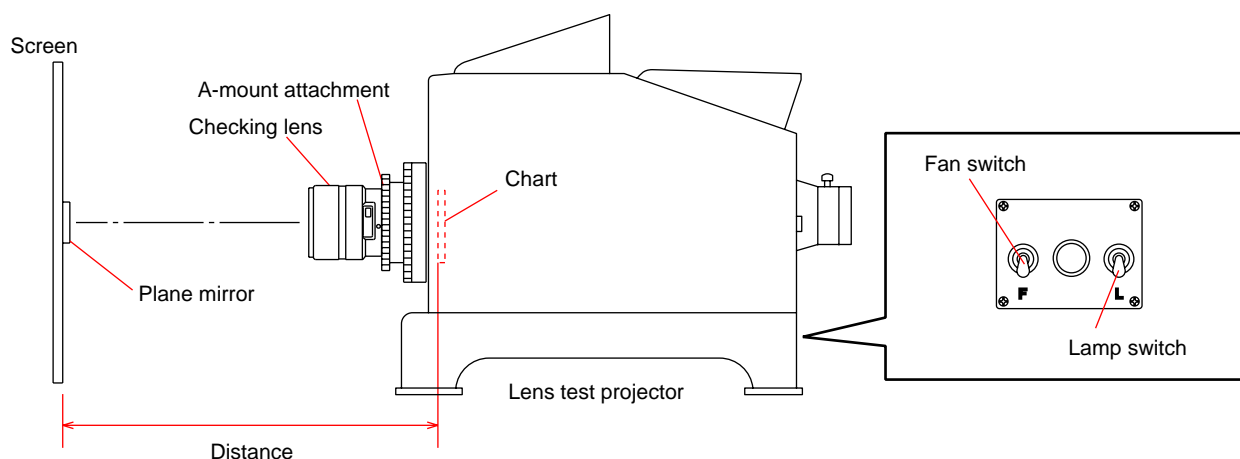

Fig.4-4-2
- 2) Attach the checking lens to the lens test projector, and set the equipments as shown in Fig.4-4-2.